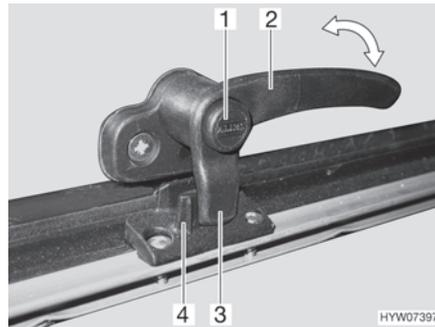
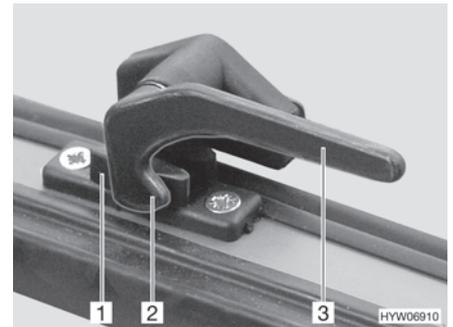

Fig. 93 Catch lever with safety knob in "closed" position
Fig. 94 Catch lever in "closed" position
- Press and hold the security button (Fig. 93,1), if present.
- Turn the catch lever (Fig. 93,2 or Fig. 94,3) a quarter turn towards the centre of the window.
- Turn the catch lever (Fig. 93,2 or Fig. 94,3) a quarter turn towards the window frame. The locking catch (Fig. 93,3 or Fig. 94,2) on the catch lever is entirely on the inner side of the window catch (Fig. 93,4 or Fig. 94,1).
- "Firmly closed" (Fig. 93 and Fig. 94)